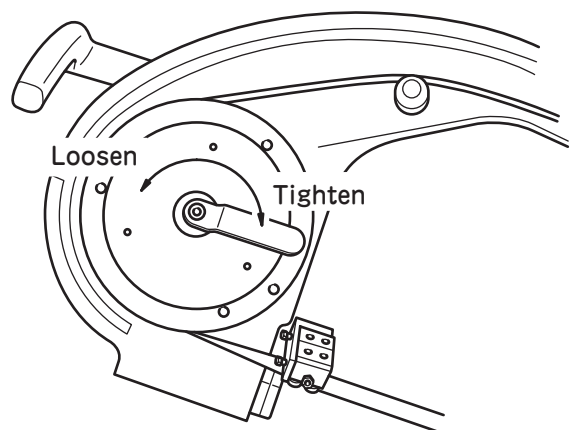

Fig.4
-Unlatch the front cover and open the cover. Turn the tension handle anti-clockwise. Do safekeeping in the state. [Fig.4]
(2)Turn the tension handle counterclockwise. [Fig.4]
(5)Turn the tension handle clockwise. The saw blade will be tight. [Fig.4]